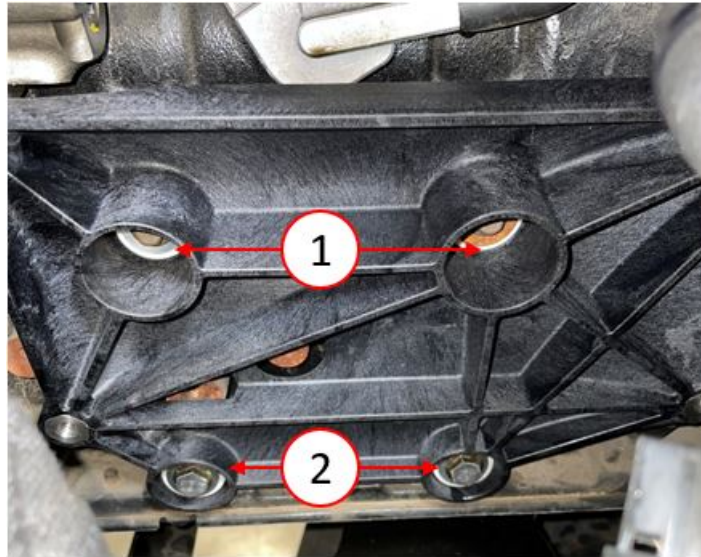

Fig. 15
40. Using the provided bottom bolts **** (Mopar PN 68578595AA /Supplier PN 5689141)**** install them into the new mounting bracket and tighten to 24 N·m (17.7 ft.lbs.) **(Fig. 15)** .